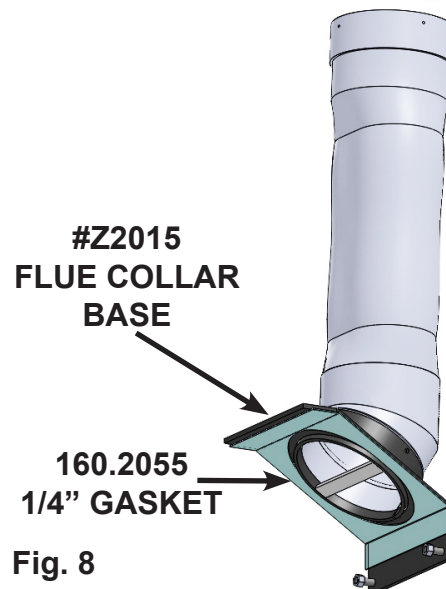

Fig. 8
1. For ease of install; once chimney piping is completely installed and attached to the provided flue collar, leave flue collar hanging roughly 2 feet above the floor of the fireplace. This will enable unit to be pushed back into the fireplace opening without interference and allow for an easy grab through the bypass door opening to install. Ensure 1/4" gasket is intact on the bottom of the flue collar assembly before installation. **(Fig. 8)**